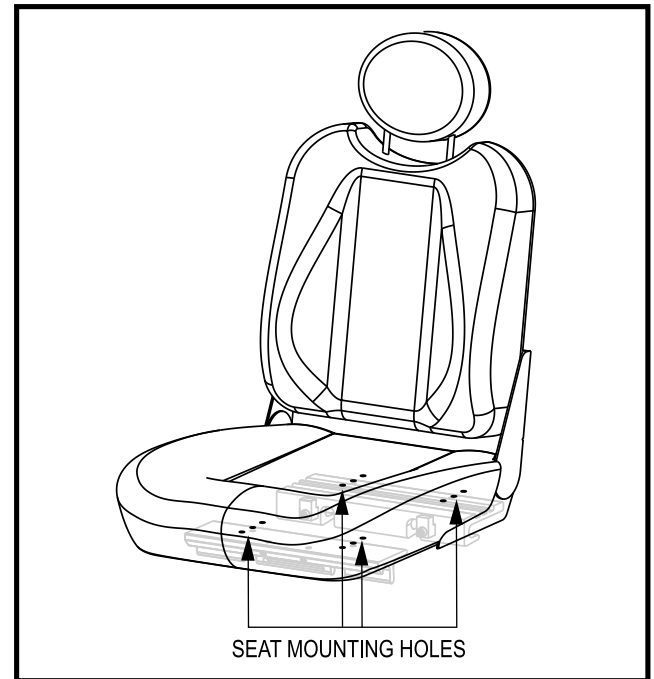

Figure 23. Seat Mounting Holes
5. Reposition the extrusions on a different set of mounting holes. You must move both extrusions the same number of holes either forward or backward. See figure 23.